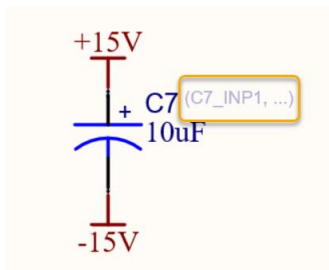

Figure 1 Physical Channel Index lined designator
3. Open schematic `Input channel.SchDoc` in the project. Next, zoom to one of the components to observe the Designators, notice they are linked to the Channel Index, as shown in Figure 1. In this exercise we will change these to Global Index, so they are all numbered sequentially.